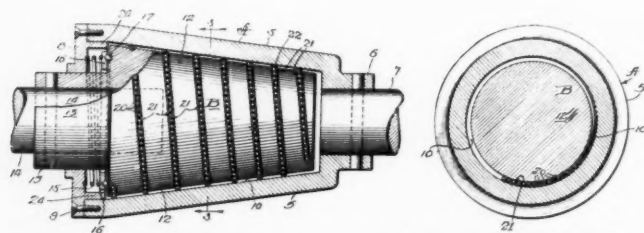

Fig. 3—A series of balls in a spiral groove provides free wheeling action between two clutch members
**D**RIVING action between clutch members is obtained through a series of balls, arranged in a spiral groove around the periphery of a truncated cone-shaped inner body *B*, Fig. 3. This clutch, classified as the free-wheeling type, was designed by Walter C. Pitter, of Epping, England, and was recently patented in this country.